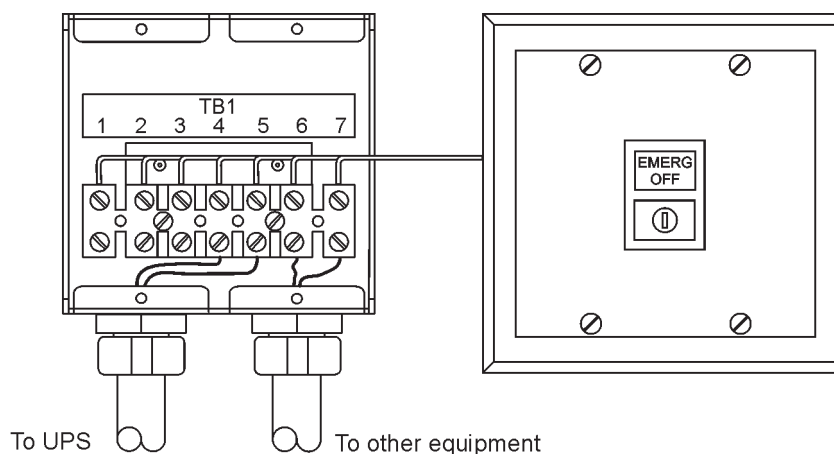

Figure 4-12. Remote EPO switch
A remote EPO switch can be used in an emergency to shut down the UPS and remove power to the critical load from a location away from where the UPS is installed. Figure 4-12 shows a remote EPO switch.
15. If required, install wiring from the remote EPO switch to the trip circuitry of the upstream protective devices. A normally-open (NO) contact is provided between terminals 6 and 7 of the remote EPO switch (where applicable, as shown in Figure 4-12. Remote EPO switch wiring must be in accordance with electrical code requirements.